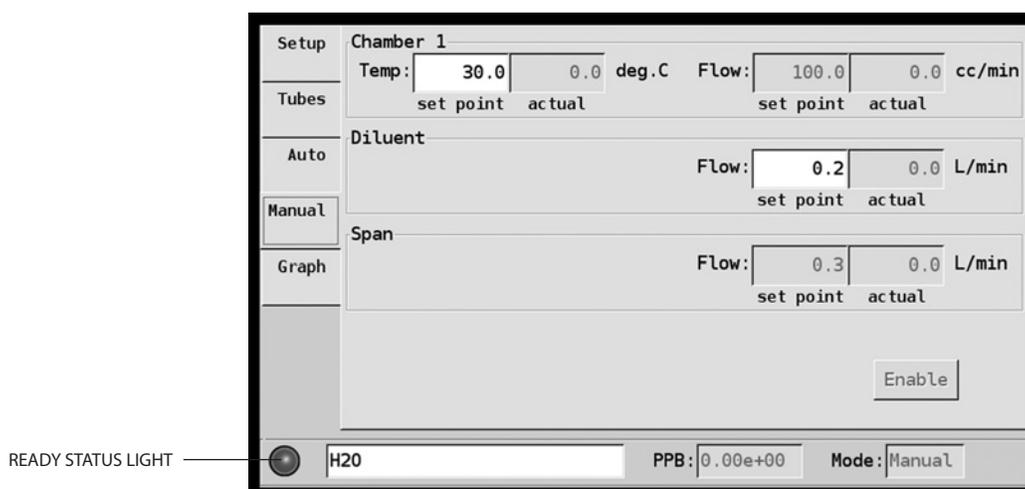

Figure 5: Model 235 Manual screen
1. Open the Manual screen (**Figure 5**) by touching the "Manual" tab on the left hand side of the display.